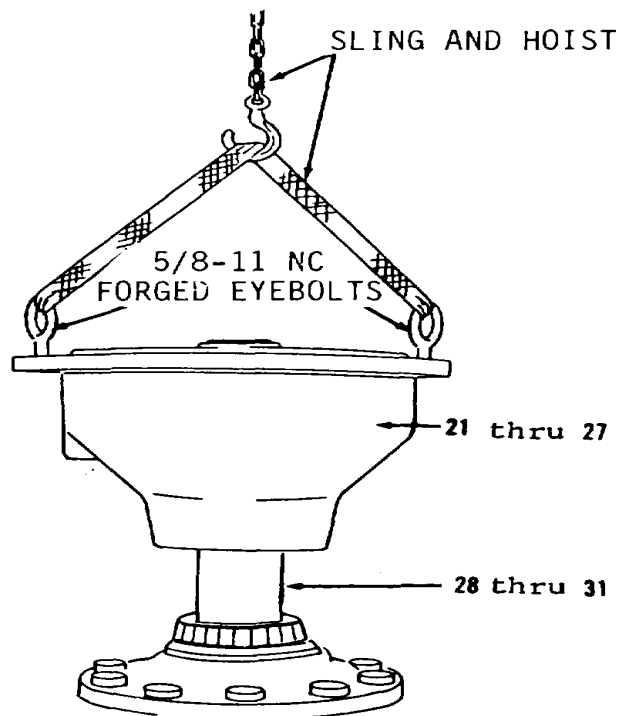

Figure 14-153.
13. Remove six bolts (18), washers (19) and springs (20).
14. Install two 5/8-11NC forged eyebolts in items 21 thru 27 as an assembly (Figure 14-153).